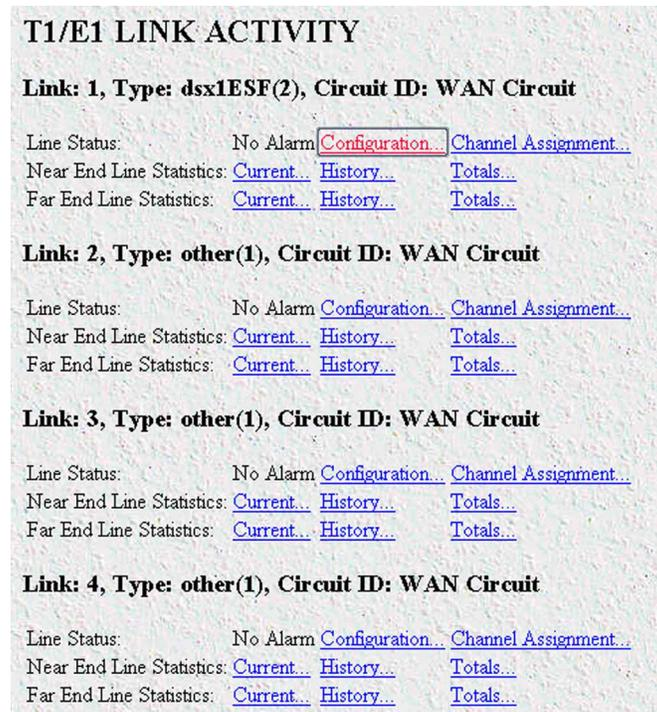

Figure 27. T1/E1 Link Activity window
1. Select T1/E1 Link on the Configuration Menu. The T1/E1 Link Activity window appears (see figure 27).
1. Select T1/E1 Link on the Configuration Menu. The T1/E1 Link Activity window appears (see figure 27 on page 42).